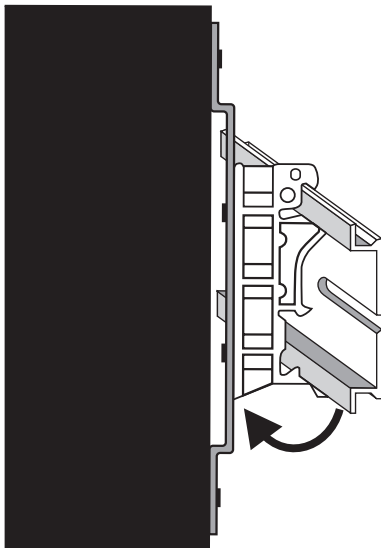

Figure 9: Assembly on carrier rail 2
- Figure 9: Assembly on carrier rail 2 19